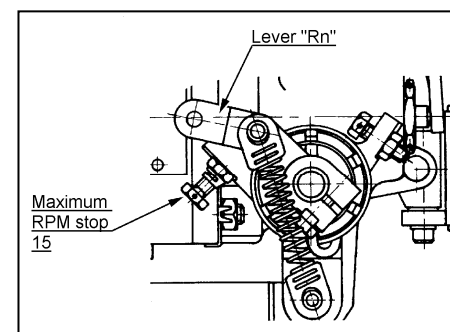

FIGURE 12-21
- (1) Move propeller control lever in cockpit such way, that governor lever "Rn" is not touching maximum RPM stop.
- (2) Loose stop 15 - figure 12-21.
- (3) Loose the nut and adjust max. RPM by turning of max. RPM stop screw 15.